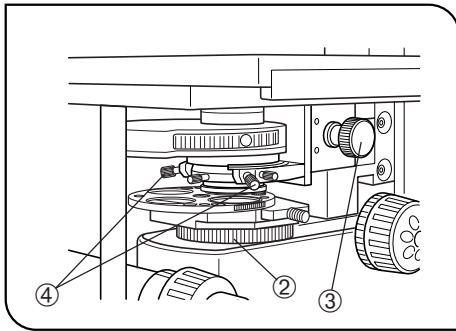

Fig. 21
(Figs. 21 & 22)
2. Set the field iris diaphragm ring ② to the open position (⊗ → ○). (Fig. 21)
4. Close the field iris diaphragm ring ② so that the diaphragm image comes inside the field of view.
5. Manipulate the condenser height adjustment knob ③ to focus on the diaphragm image.
6. While opening the field iris diaphragm gradually, turn the two condenser centering screws ④ on the condenser holder to move the iris diaphragm image to the center of the field of view. (Fig. 21, Fig. A → Fig. B).